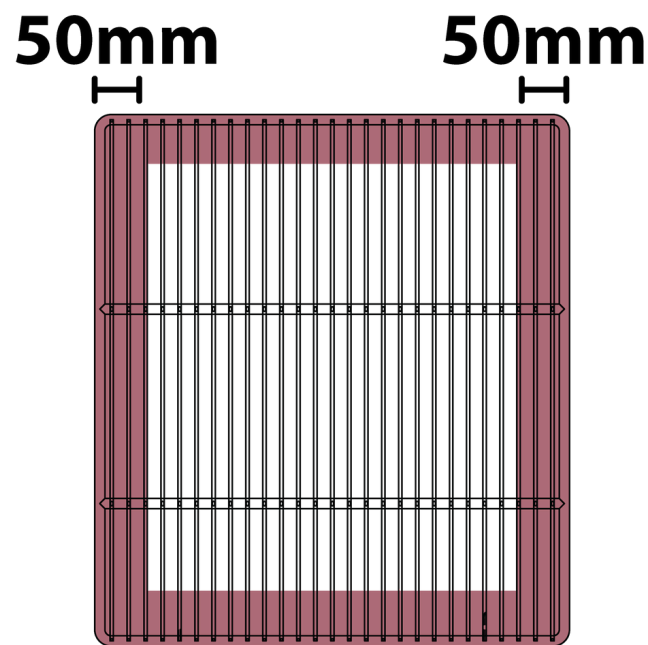

Fig 1.
- Ensure the highlighted area of the cabinet is clear of all obstructions to ensure that proper ventilation is allowed throughout the cabinet. (Fig 1 & 2.)